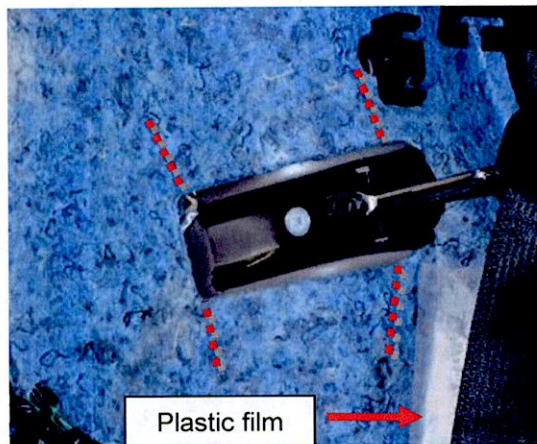

Figure 4
6. Cut the insulation as shown (Figure 4). This creates tabs that can be folded back to access the spot welds on the 2nd row seat striker bracket.